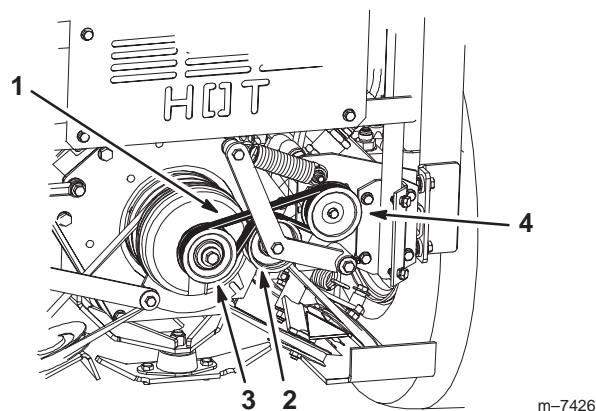

Figure 78
2. Pull the spring loaded idler down and remove the fan drive belt from the engine and the pump pulley (Fig. 78).
3. Install the new belt around the engine and hydro pump pulley (Fig. 78).
4. Pull the spring loaded idler down and align the belt. Release the pressure on the spring loaded idler (Fig. 78).